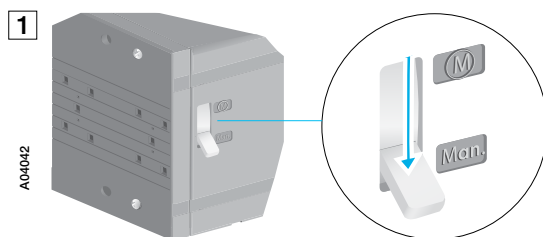

Figure 6.5 Motor/Manual selection in the Man. position
1. Turn the Motor/Manual selector to the Manual (Man.) position, see Figure 6.5. The motor operator is switched off and electrical operation is prevented.